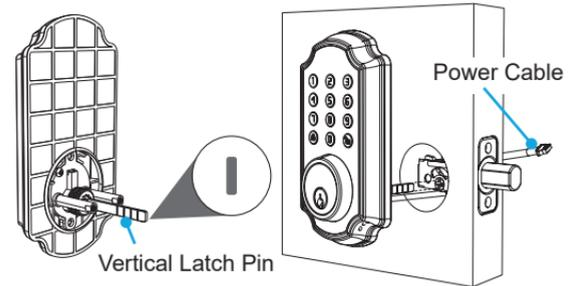

Fig. 7
Step 2. Start with the outside section. Turn the latch pin vertically and remove the key from the key hole. Gently feed the power cable under the latch and thread the latch pin through the square hole in latch. The latch pin must be vertical while inserting the square hole in the latch. (Fig7).